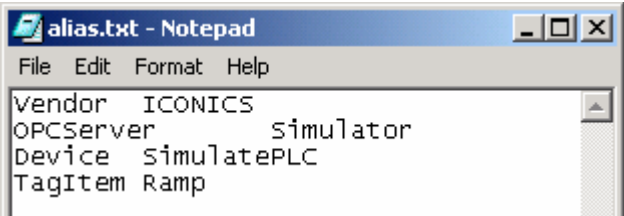

Figure 4 - Sample Alias File
4. Specify the aliasName then press the Tab key, followed by the aliasDefinition, and then the enter key. Repeat this for all aliases you want to include in the alias file. Figure 4 shows an example of how the text file would look like. Note that there is exactly one tab between the aliasName